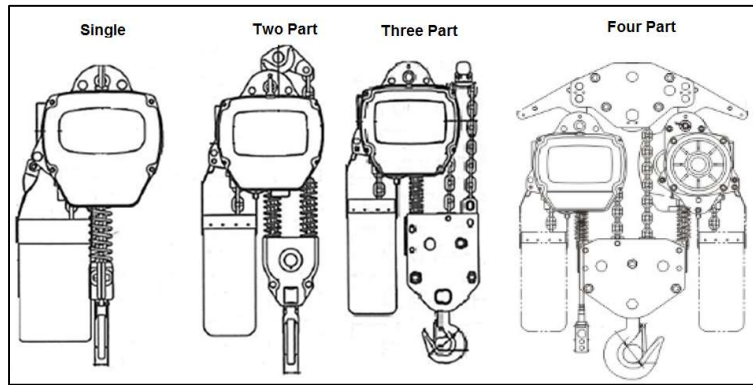

Figure 7.6.2
8. Parting of replacement chain must be the same as the original parting of chain on the hoist. Refer to Figure 7.6.2 for parting arrangement of hoists.